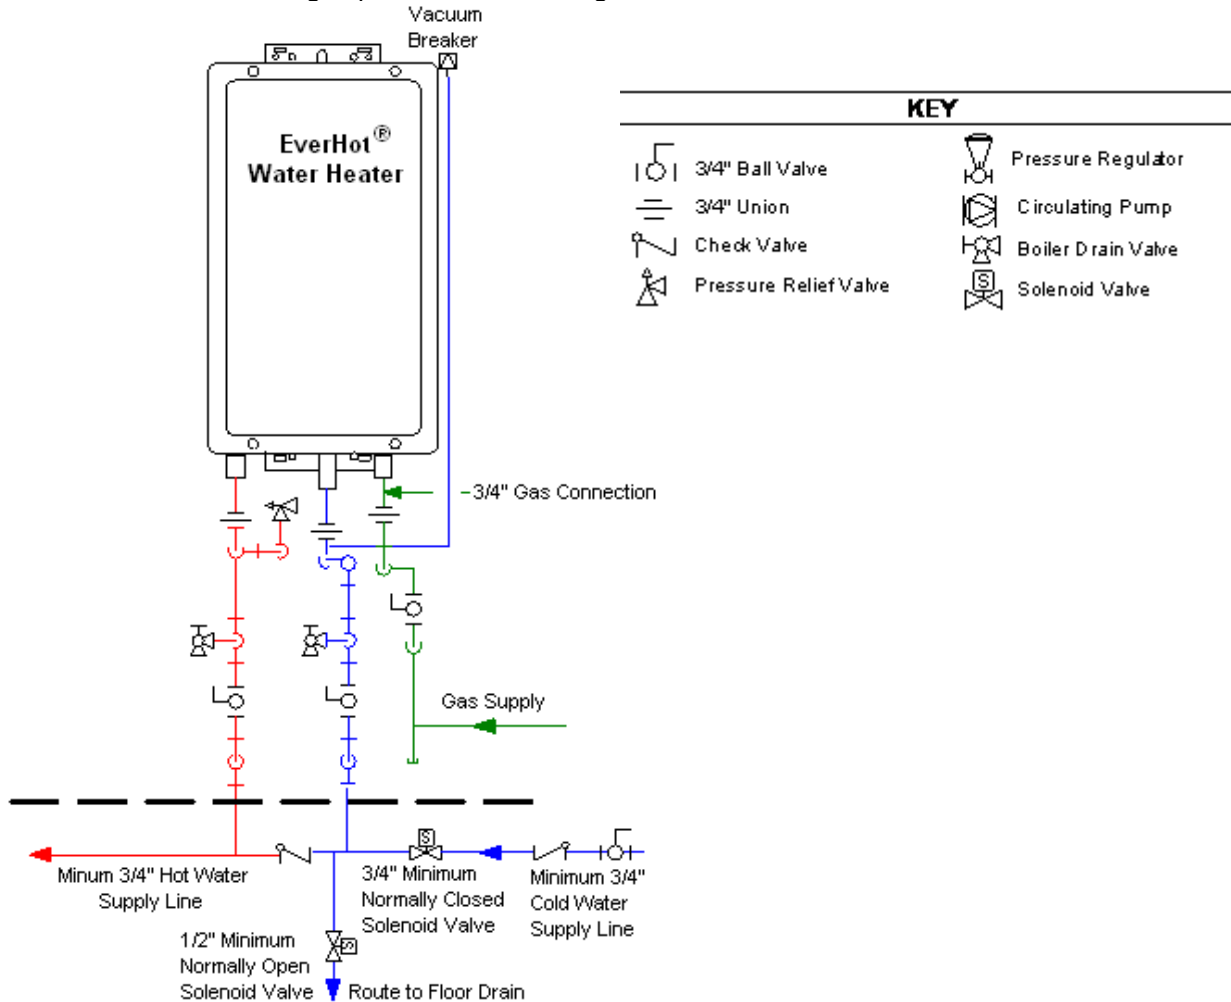

Figure 8. Recommended Piping for Freeze Protection.
4. In cold climates, where piping can freeze during an extended power failure, drain solenoid valves should be installed on the cold and hot water supply lines to allow water to drain from the water heater when power is interrupted. Refer to the piping diagram (Figure 8) "Recommended Piping for Power Failure Freeze Protection" in Section IV, and contact your Bradford White dealer if assistance is needed.
9. Commercial installations may require more than one water heater piped together in a manifold to supply enough capacity for high temperature and high water flow applications. Special controls are available from your Bradford White supplier for operating more than one water heater together. These controls stage the operation of the water heaters for the flow rates and control the amount of flow through each water heater. Order p/n MSA-2M for the electronic manifold control for the first and second water heater and p/n MSA-2S for the wiring harness for each additional water heater to be controlled. A maximum of (5) water heaters can be connected together. Alternatively, to connect only (2) water heaters, an EZConnect™ harness, p/n REU-EZC-1US, can be used. Instructions are included with these parts.
Heat trace all water pipe and fittings located outside the home (attic, crawl space) or building structure. All pipe and fittings shown below dashed line (see Figure 8) should be located inside home or building structure. The vacuum breaker line should be located inside the building structure.